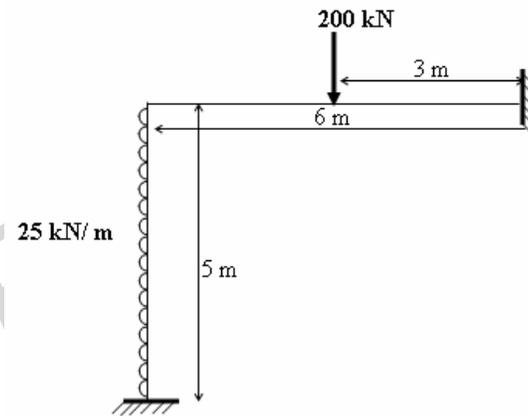

Fig.6
7. Analyze the plane frame shown in Fig.6 using the stiffness method and draw the bending moment diagram. [16]